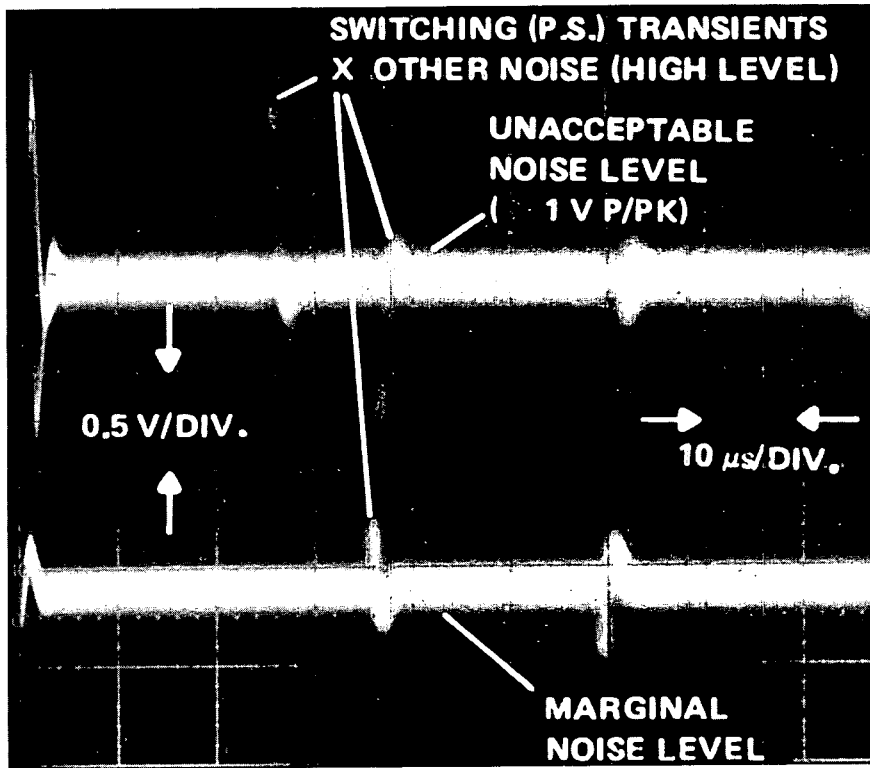

Fig. 16.
1. Using the SC504 oscilloscope, check each amplifier front panel test point. Observe that base-line noise is less than 1 V peak-to-peak (Figs. 16 and 17). Noise greater than 0.5 to 1 V peak-to-peak is usually a result of loose mounting screws in the HP-100 preamplifier box or other grounding problems.